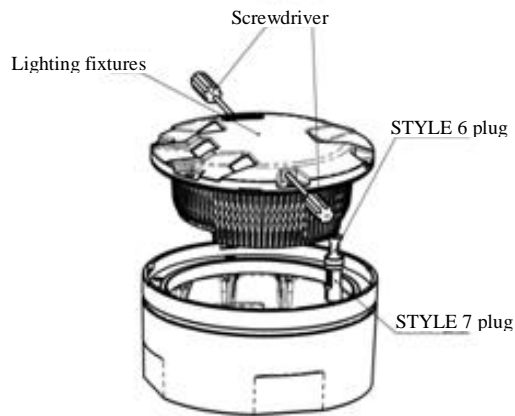

Figure 5-2
- Stretch into the pinch bar hole with two screwdrivers to screw out the lighting fixtures vertically (see Figure 5-2).